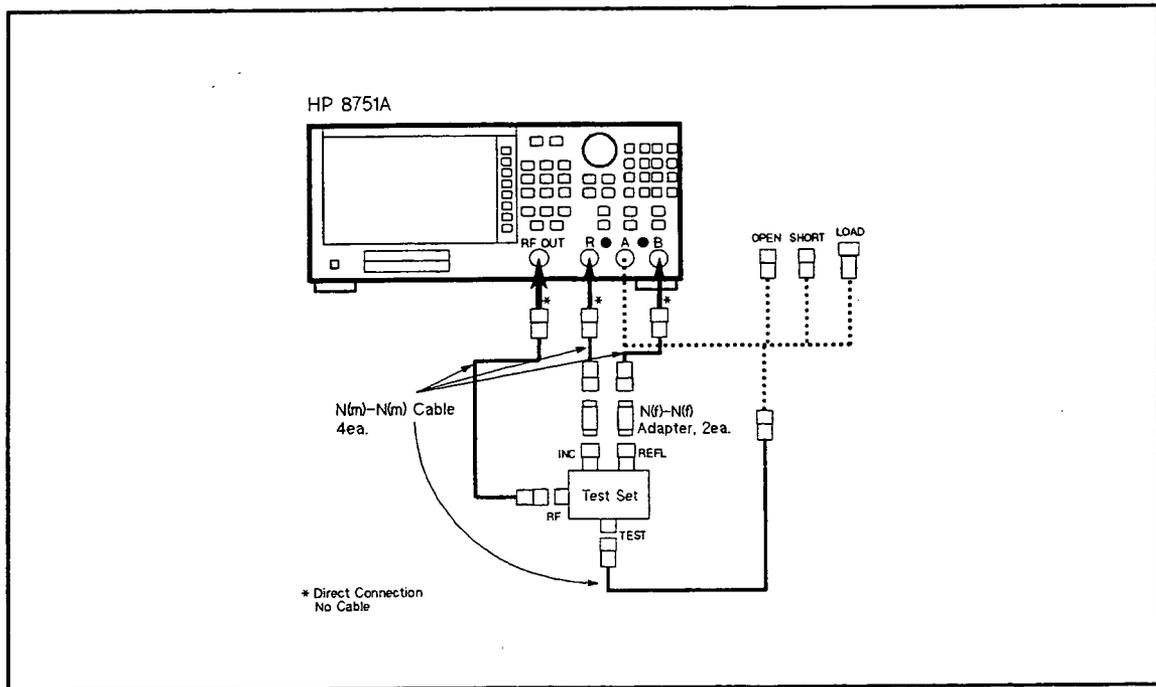

Figure 2-16. Input A Impedance Setup
a. Connect the equipment as shown in Figure 2-16.